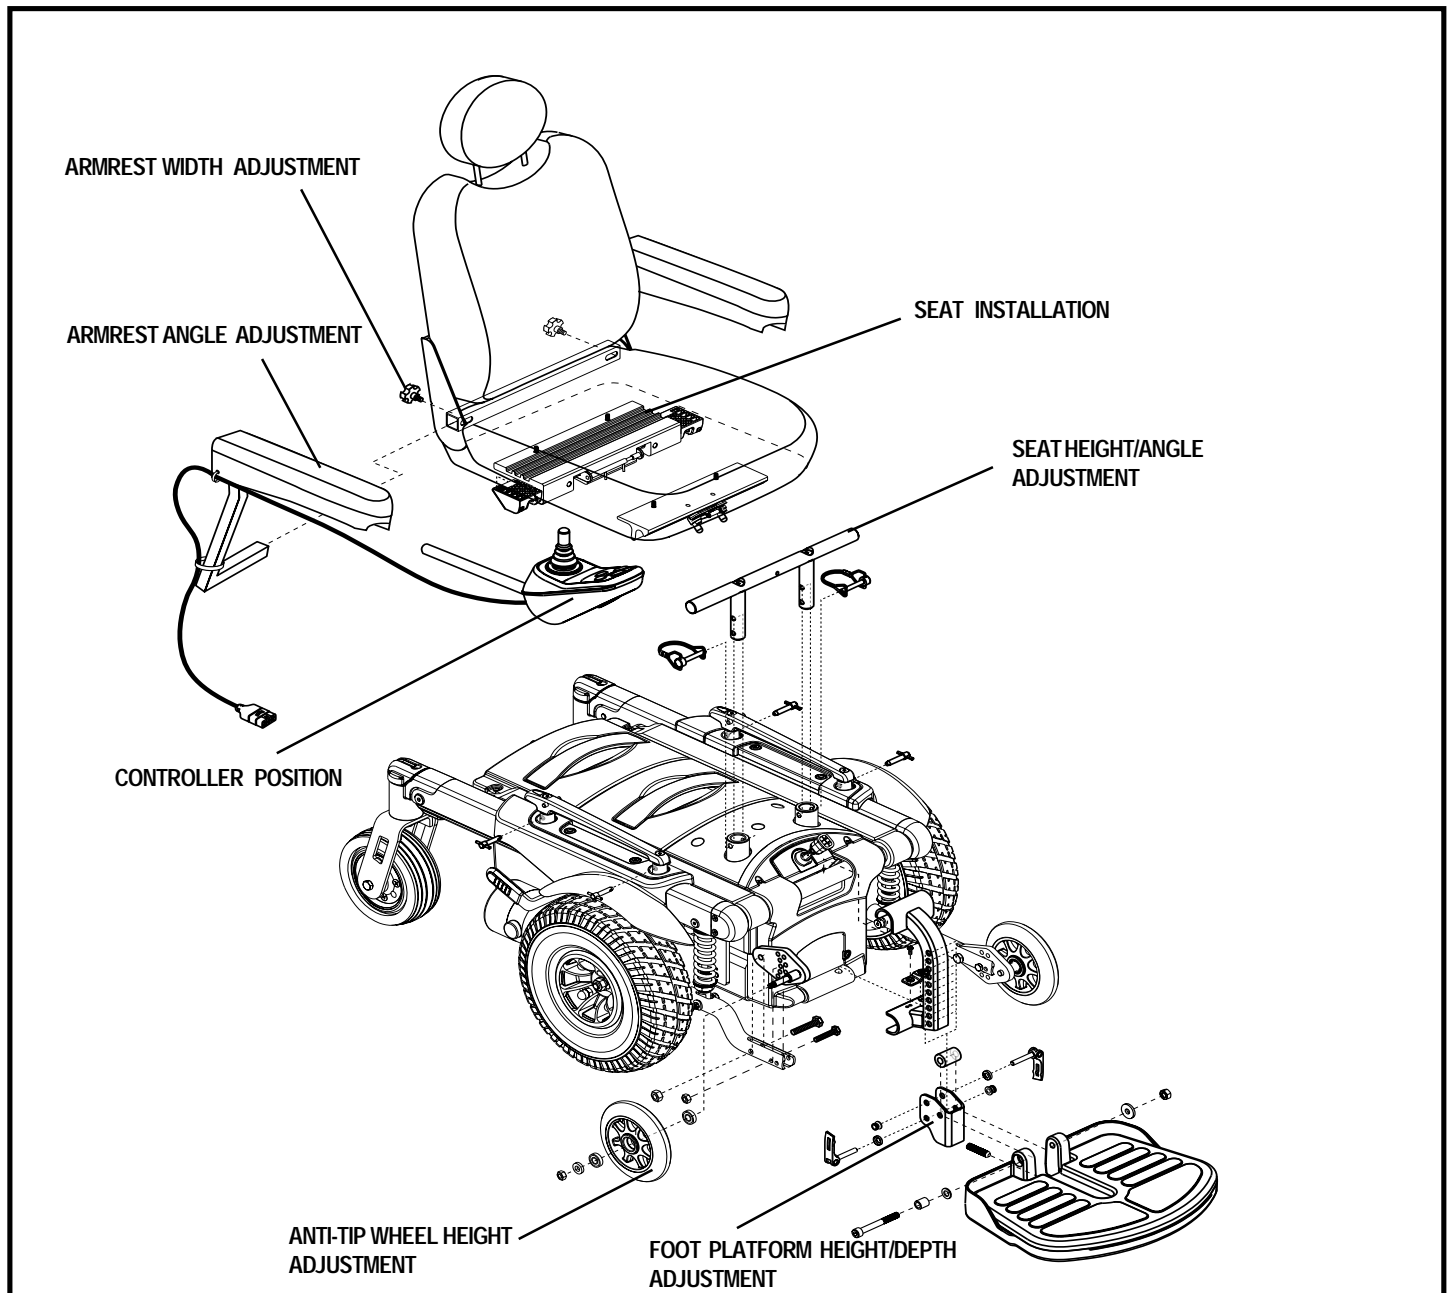

Figure 10. Jazzy 1107 Assembly View
Your power chair may require some assembly either before initial use or after transportation. It may also require disassembly to make some comfort adjustments. Figure 10 details those parts of the power chair that are designed to be disassembled and assembled by an end user or by a qualified caregiver before using the product or making comfort adjustments.
5. Install the controller into one of the armrests. See figure 10.